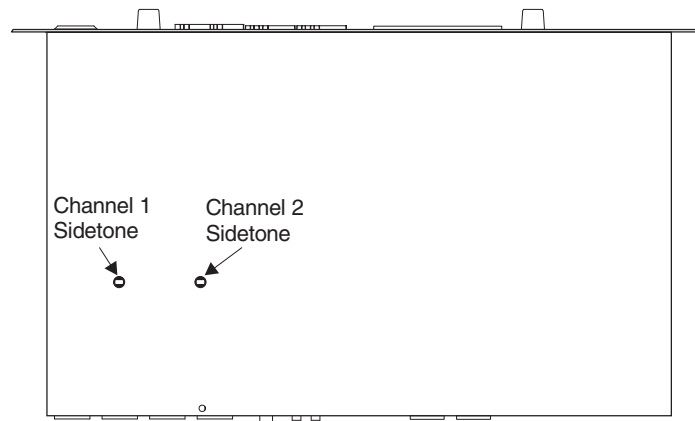

Figure 8. MS2000 Bottom View
4. Using a small flat-bladed screwdriver, adjust the channel 1 sidetone through the access hole in the bottom of the MS2000 (Figure 8) to minimize the tone volume.